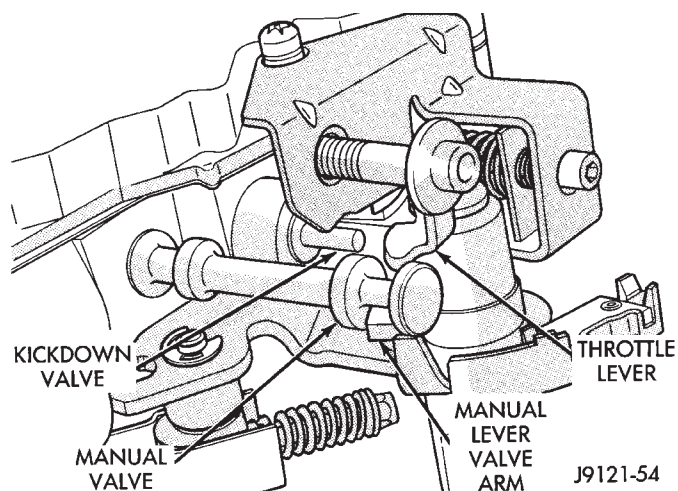

Fig. 126 Manual And Throttle Lever Alignment
(8) Align manual lever with detent ball and manual valve. Hold throttle lever upward. Then press down on manual lever until fully seated. Remove detent ball retainer tool after lever is seated.
(9) Then Install manual lever seal, washer and E-clip.
(10) Lubricate solenoid case connector O-rings and shaft of manual lever with light coat of petroleum jelly.
(11) Verify that throttle lever is aligned with end of kickdown valve stem and that manual lever arm is engaged in manual valve (Fig. 126).
(12) Install boost valve, valve spring, retainer and cover plate. Tighten cover plate screws to 4 N•m (35 in. lbs.) torque.
(13) Obtain new fluid filter for valve body but do not install filter at this time.
(14) If line pressure and/or throttle pressure adjustment screw settings were not disturbed, continue with overhaul or reassembly. However, if adjustment screw settings **were** moved or changed, readjust as described in Valve Body Control Pressure Adjustment procedure.